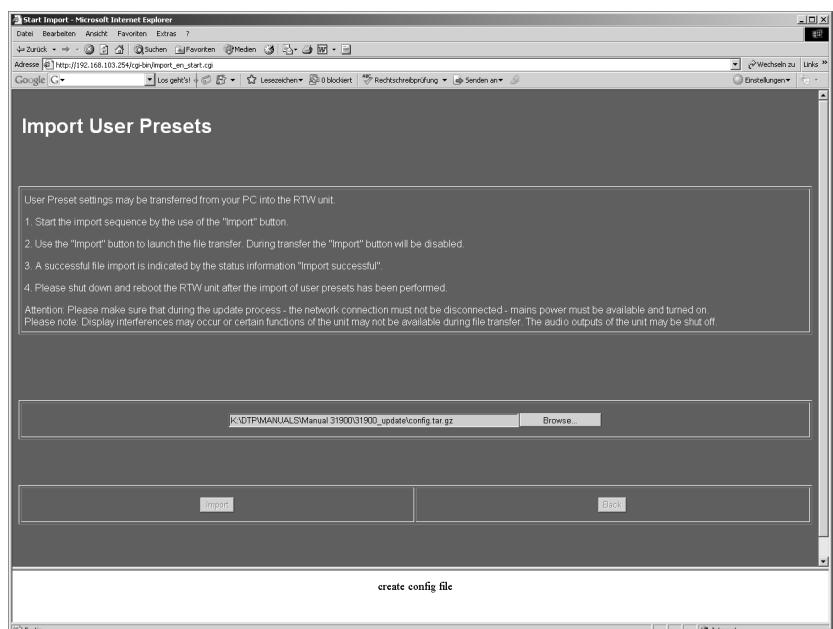

Fig. 8-24: The data transfer of the user settings is running
6. “Create config file” is displayed while the transfer is running (see Fig. 8-24).